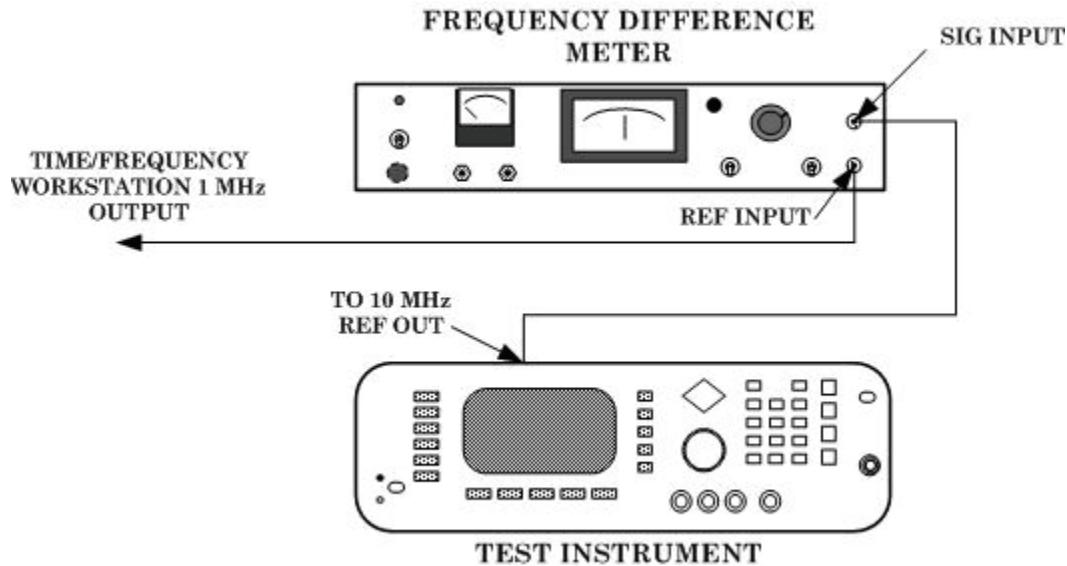

Figure 1. Time base verification hook-up.
- Connect equipment as shown in figure 1.